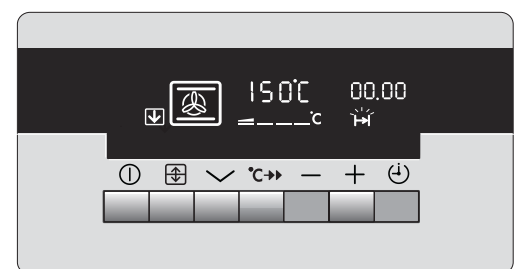

Fig.11.
- i) To cancel an automatic programme press the Time Selector button until the 'Cook Time' indicator neon flashes. Press the decrease control until the display reads 00.00 as Fig. 11.